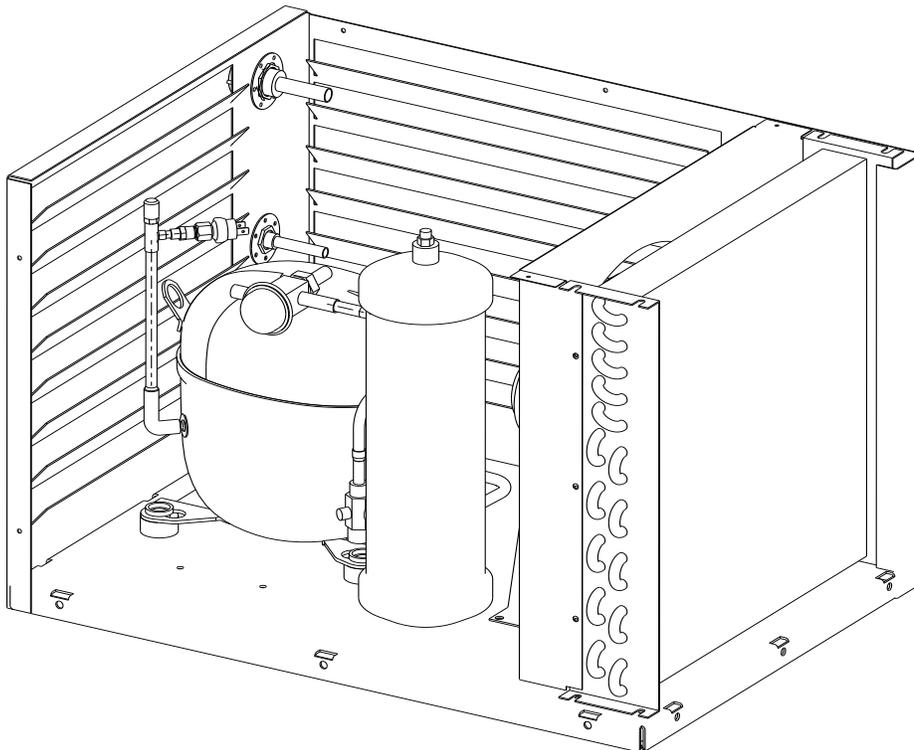

Figure 5. Connection of Low Pressure Sensor Assembly
7. Connect the low pressure sensor with required fittings as shown in Figure 5.